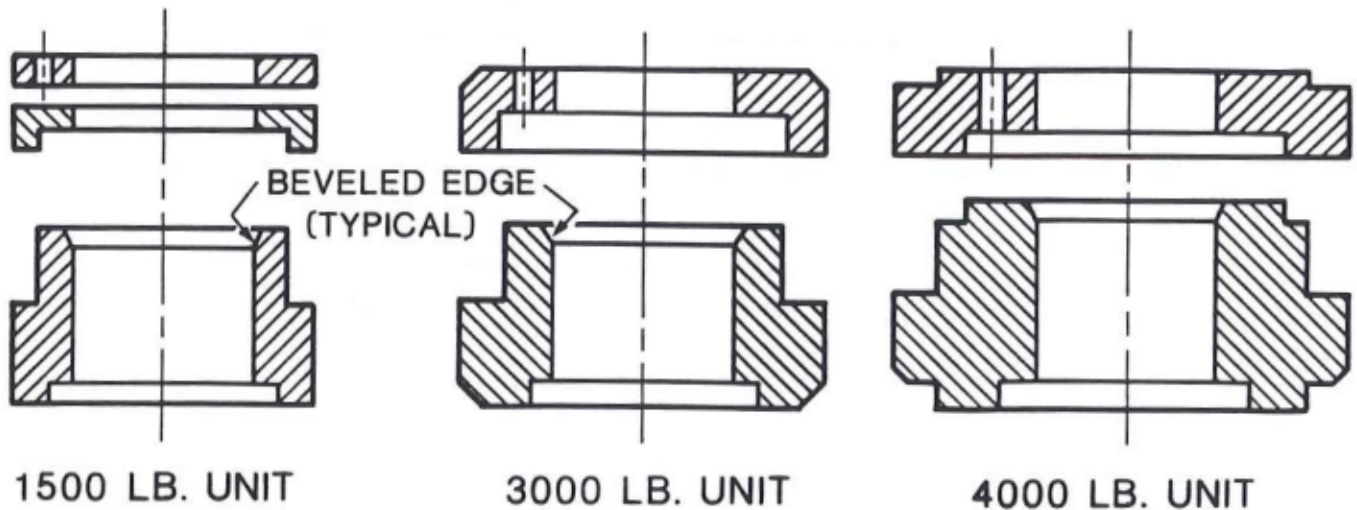

Figure 6-9. Piston Assemblies
- 3). A. The top inside diameter of the piston has a beveled edge (Figure 6-9). Carefully slide the piston, **beveled edge first**, onto the shaft from the low pressure side. Installing the unbeveled edge first will result in damage to the shaft O-ring.